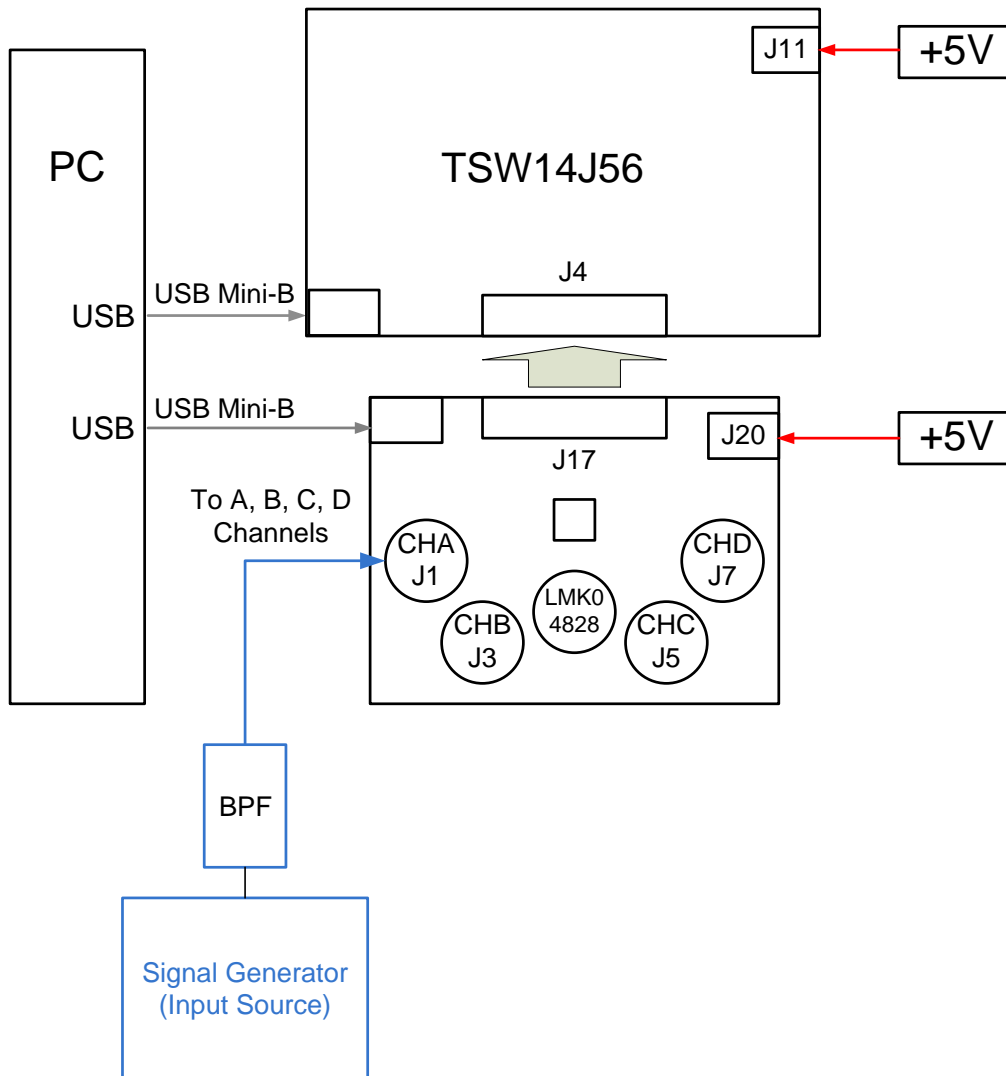
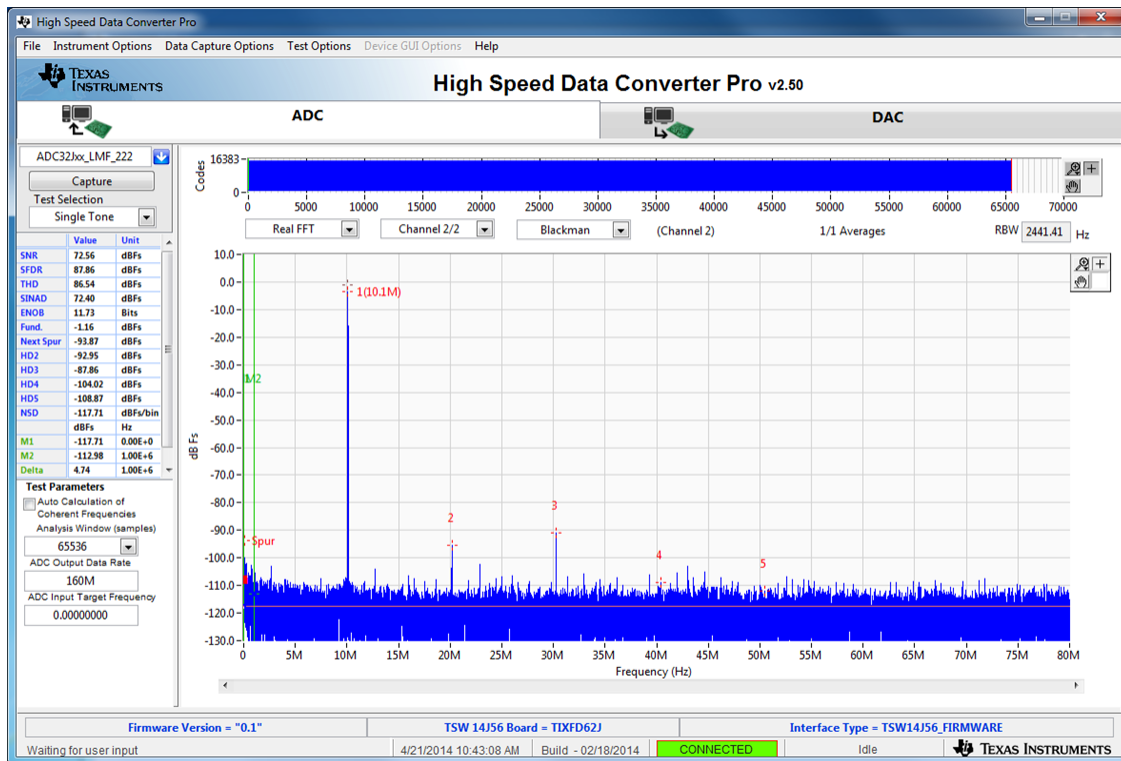

Figure 16. ADC32Jxx/ADC34Jxx and TSW14J56 Test Setup Block Diagram
Figure 18. ADC32Jxx Operating in 14-Bit Mode at 160 Msp/s with 10-MHz Input Signal
The test set-up for evaluation of the ADC32J/34Jxx EVM with the TSW14J56 or TSW14J50 Capture Card is shown in Figure 16. As seen in this figure, the evaluation setup involves a clock from a high quality on board clock chip LMK04828 and a sine wave for the analog input from a high-quality signal generator. High order, narrow bandpass filters are usually required to remove phase noise and harmonic content from the input sine waves. Since the on board clock and input sinewave are not coherent then the resulting FFT will need to have a windowing function such as Blackman-Harris/Hamming/Hanning applied to the data.
- Select the number of sample points (and resulting number of FFT bins) to be used. The example shown in Figure 18 has 65536 samples.
- Enter the ADC32J/34Jxx sampling rate. The example shown in Figure 16 has the sample rate set at 160 Msps
- Enter the input frequency desired. The example shown in Figure 16Figure 18 has the filtered input frequency set at 10 MHz and around 10 dBm – adjust to achieve –1 dBFs on the HSDC Pro FFT plot
- Observe an FFT result similar to that of Figure 16